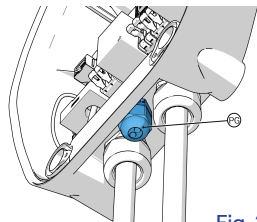

Fig. 3a
- For **Dazebox C** as shown in Figure 3a and 4a, the shielded network cable must pass through a cable gland hole (PG), breaking the blind bottom using a screwdriver. This cable gland has two blind holes Ø5 mm, one for the DPM, and the other for the bipolar coil release cable (refer to the Dazebox C Installation Manual).